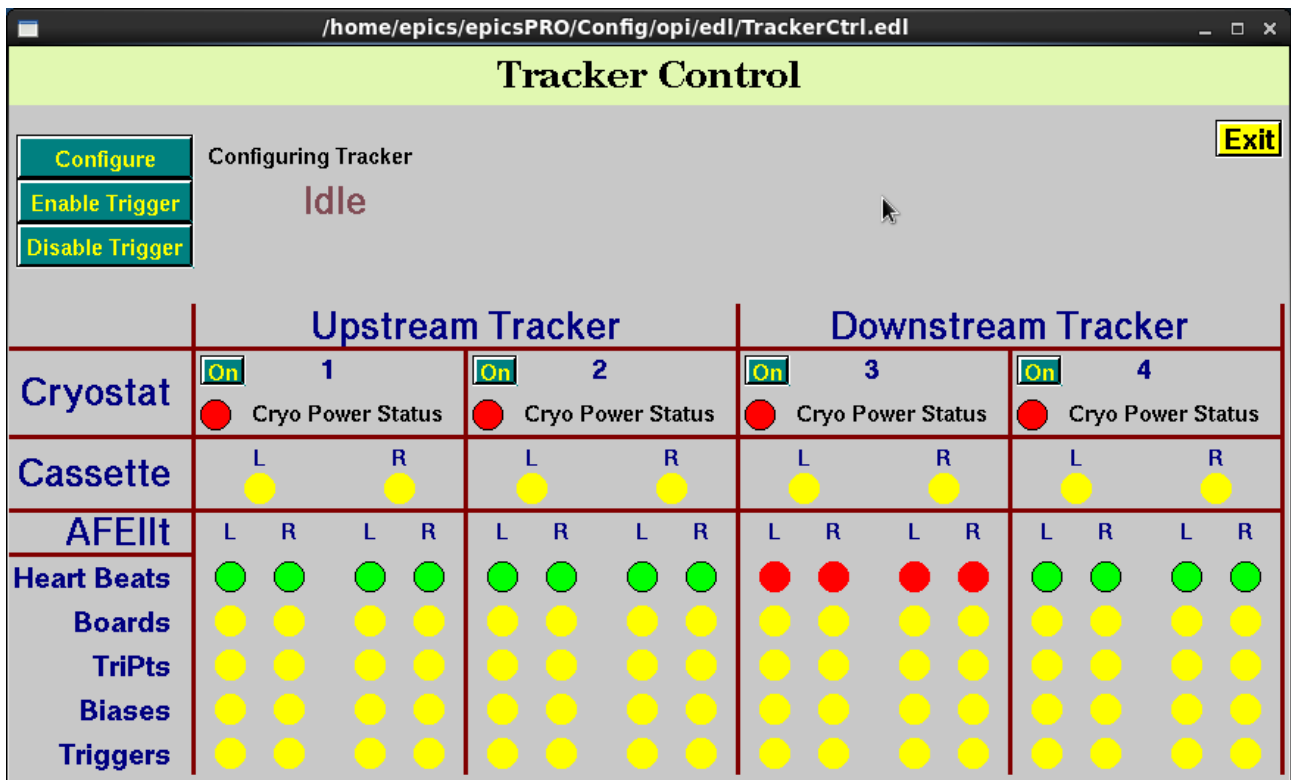

Figure 2: No heartbeats delivered from cryostat 3, and with no boards configured.
1) Check that all the Heart Beat row is green. This indicates that the front end boards are alive and communicating. If an entire section of lights are red, then it is likely that a power supply is turned off in the hall. These are located beneath the cryostat, and can be powered on by lifting the red switch upwards. An example of a powered off cryostat is shown in Figure 2. It will not be possible to configure the boards until they are communicating, so consult an expert as necessary.